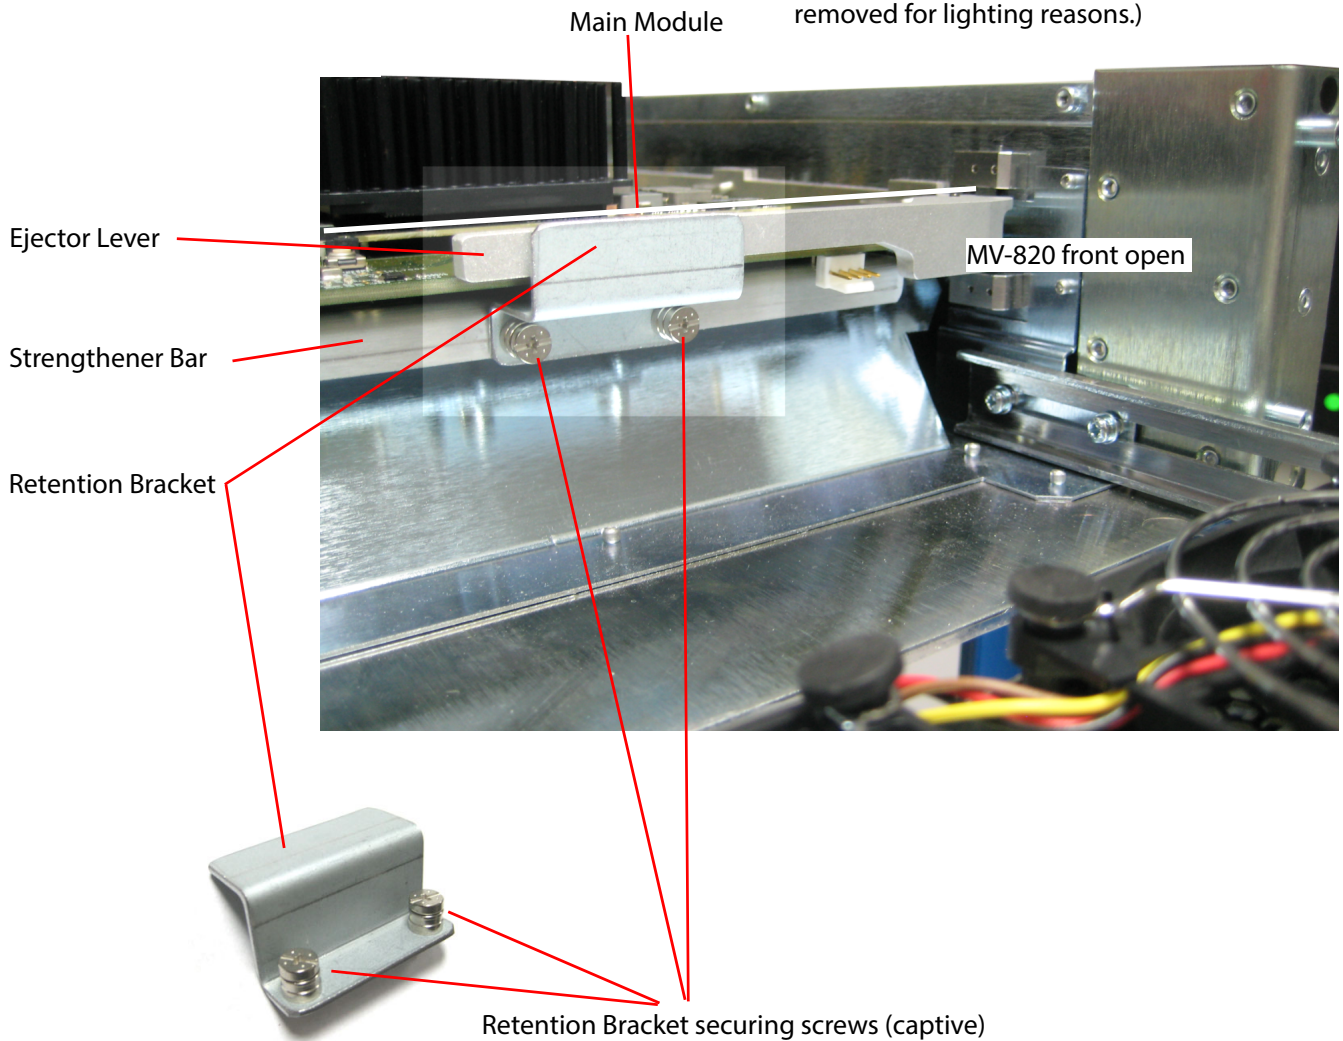

Figure 107 Main Module Retention Bracket and Strengtheners Bar
The Main Module is retained in the chassis with two Retention Brackets, each attached to the module's lower Strengtheners Bar with two captive screws. See Figure 107.
4. Unscrew the two captive screws securing one of the Retention Brackets. Remove the Retention Bracket and keep it aside. See Figure 107 and Figure 109. Similarly, remove the other Retention Bracket.
See Figure 107 and Figure 109.